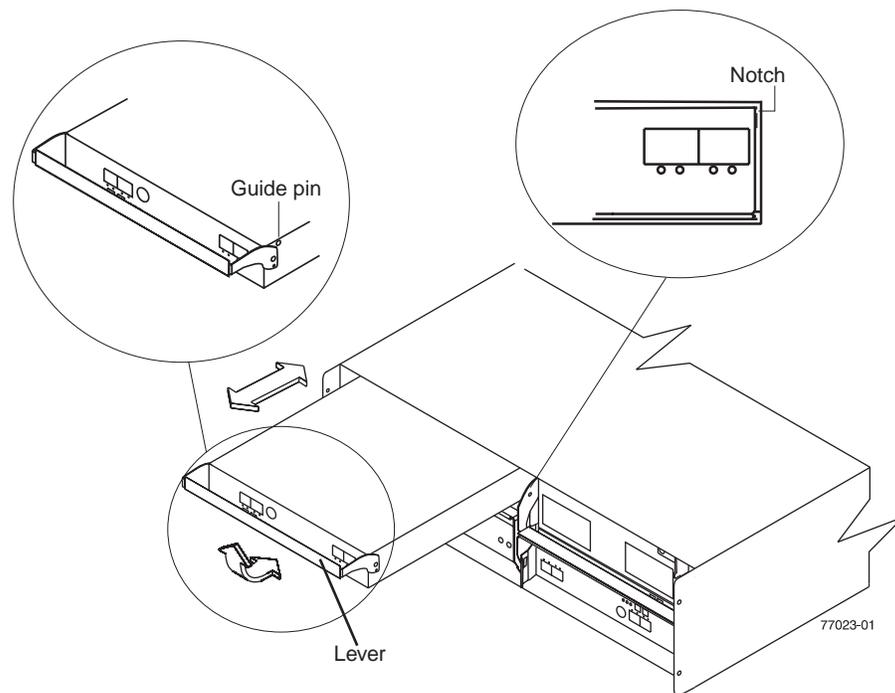

Figure 48. Removing and replacing an Environmental Service Module (ESM)
8. While squeezing the latch, pull the lever open 90° (so that the lever is horizontal). Pull the lever away from the chassis to remove the ESM from the EXP420 midplane, as shown in Figure 48.